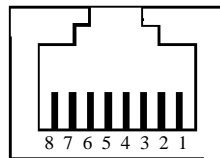

Figure 7 RJ45 Port
Figure 7 shows the pin numbers of the 10/100Base-T(X) RJ45 port.